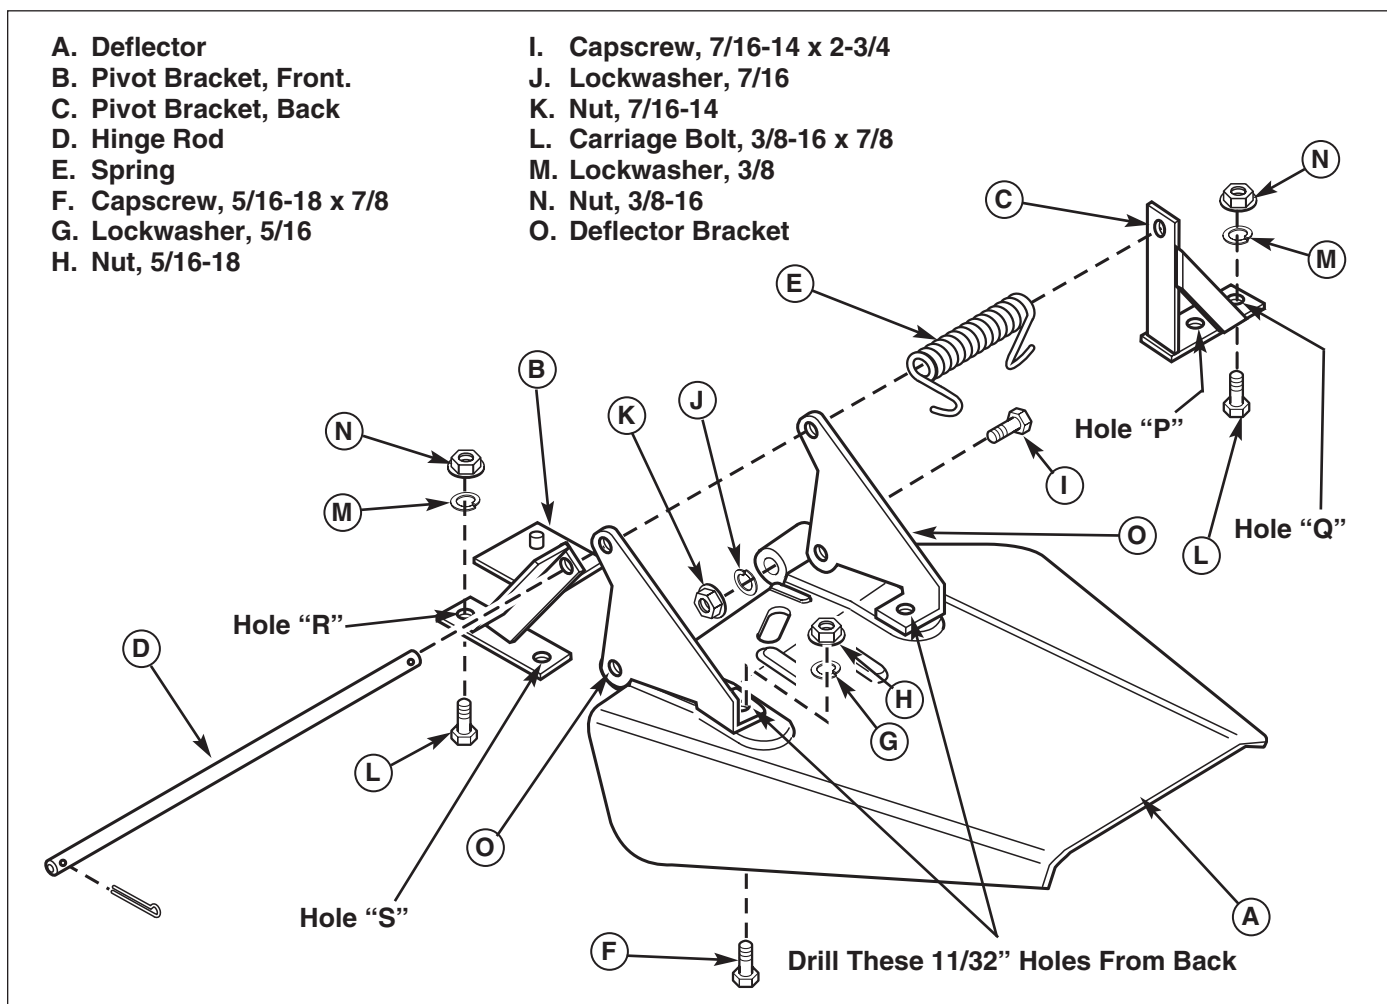

Figure 5. Deflector
1. The two holes for mounting the deflector must be drilled out. Turn the deflector over, and notice that these two holes are started. Finishing drilling the two 11/32 inch holes (See Figure 5).
2. See Figure 5. Connect the deflector (A) to the deflector brackets (O) with two 5/16-18 x 7/8 screws (F), 5/16 lockwashers (G), and 5/16 nuts (H). Install screws from the bottom.
3. Install two 7/16-14 x 2-1/4 capscrews (I), 7/16 lockwashers (J), and 7/16 nuts (K) as shown. Capscrews must be installed with lockwashers and nuts on the inside as shown in Figure 5.
4. Attach the front pivot bracket (B) to the existing hole in the mower deck formerly used to mount the deflector rod. Attach using 3/8-16 x 7/8 carriage bolts, lockwashers, and nuts inserted through hole "S" (See Figure 5).
5. Attach the back pivot bracket (C) to the existing hole in the mower deck formerly used to mount the deflector rod. Attach using 3/8-16 x 7/8 carriage bolts, lockwashers, and nuts inserted through hole "P" (See Figure 5).
6. Use the hinge rod (D) to align the front and back pivot brackets (B and C) as shown.
8. In the new drilled holes. install two 3/8-16 x 7/8 capscrews (L), lockwashers (M), and nuts (N). Install capscrews from the bottom.
9. Install the deflector (A) assembly. Insert the rod (D) through the brackets (B, O, and C) and spring (E). Secure with a cotter pin at each end.
10. Hook the spring on the rear deflector bracket (O), pre-load one turn, and hook second end on back pivot bracket (C).